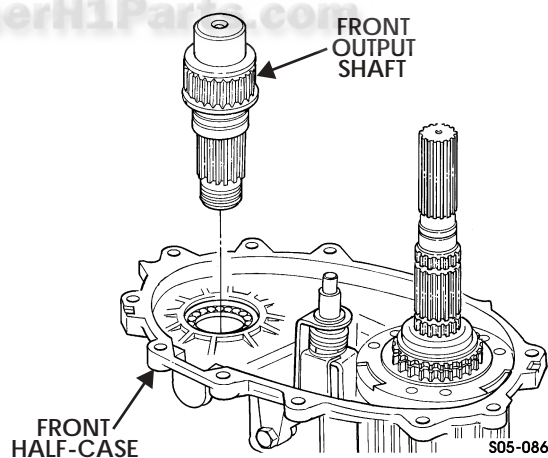

Figure 5-139: Front Half-case
24. Remove front output shaft from front half-case (Figure 5-139).